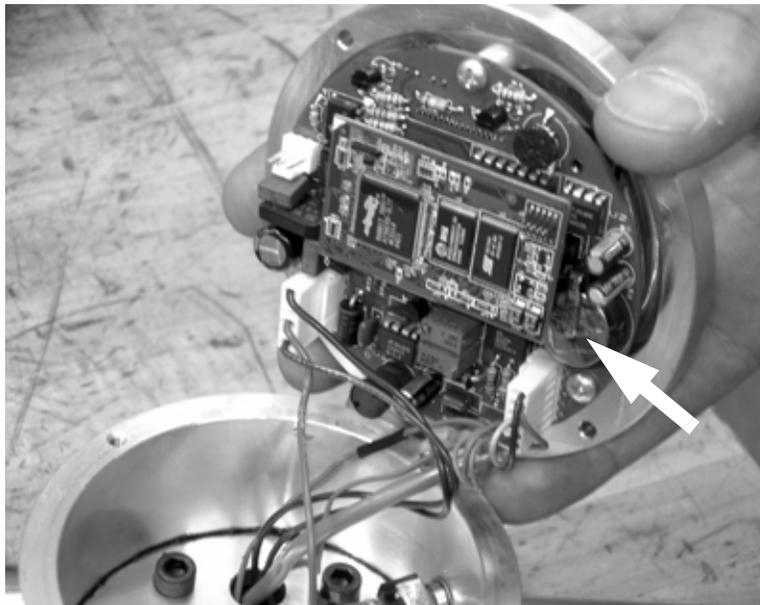

Figure 3-16. The replaceable battery is mounted in a socket on the control unit circuit board.
3. Carefully remove the face plate and turn it over to access the circuit board inside the control unit. The battery is in a socket mounted on the circuit board, as shown in Figure 3-16.